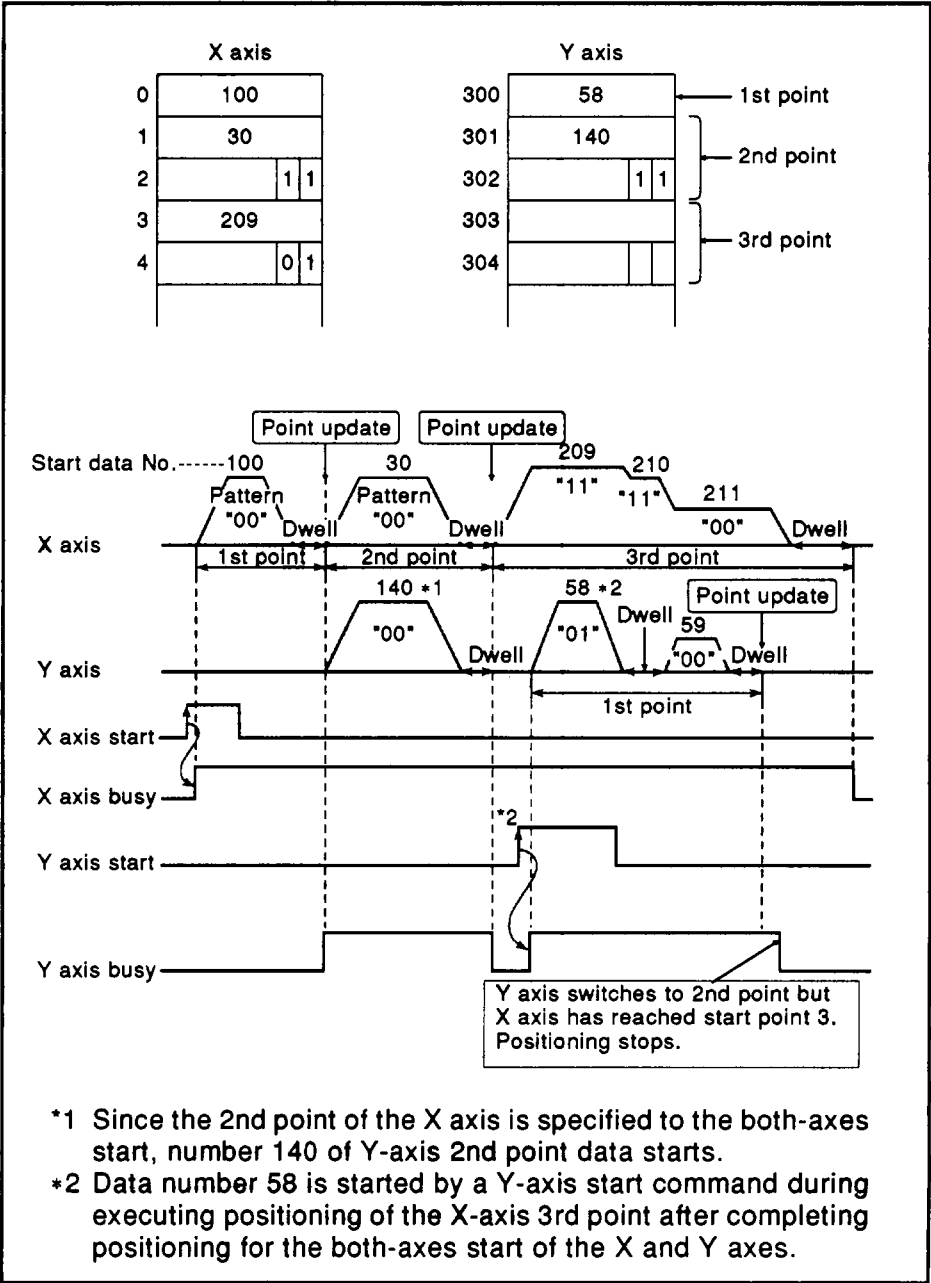

Fig. 3.36 Start Data Example 6
- Processing will stop if one axis proceeds ahead of the other and dual axis processing is called. See Fig. 3.36.